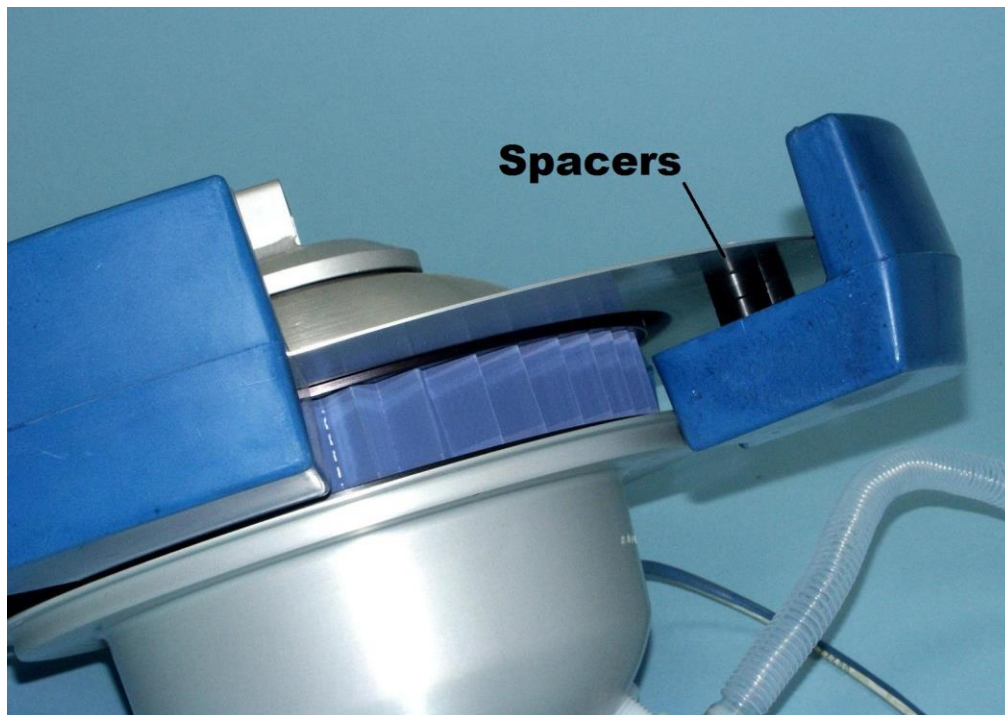

Figure 1-4 – Detail of float (lowered) for rough water position.
The lid is made of anodized aluminum and has four blue polyurethane floats that serve as edge guides (thereby keeping the unit from getting hung up) as well as keeping the unit afloat. Flotation is provided by the four lid floats and the orange output hose floats. The lid floats may be adjusted with spacers to change the floating height of the oil/water separator cartridge with respect to the oil/water interface. Figure 1-4 shows a lid float with the spacers adjusted for a rough water position. See Section 3 for further information on changing the float height of the buoy.
In situations when the water is frequently rough or the cartridge has become contaminated with detergent it may be necessary to float the buoy above the oil/water interface in order to prevent water intrusion. The two pair of washer shims above each lid float may be placed between the lid and the float as shown in Figure 1-4. Note that a total of three float positions are possible with the spacers provided.
2. Carefully pull out the four floats and re-insert them with either one or two spacers between the float and the lid (see Figure 1-4).